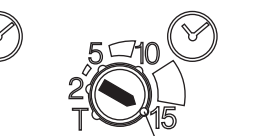

**FIG.11** Modalità di Test
- Turn the Time ⌚ control and the Light lux ⚙️ control counter-clockwise to the edge-the TEST position (FIG.11).